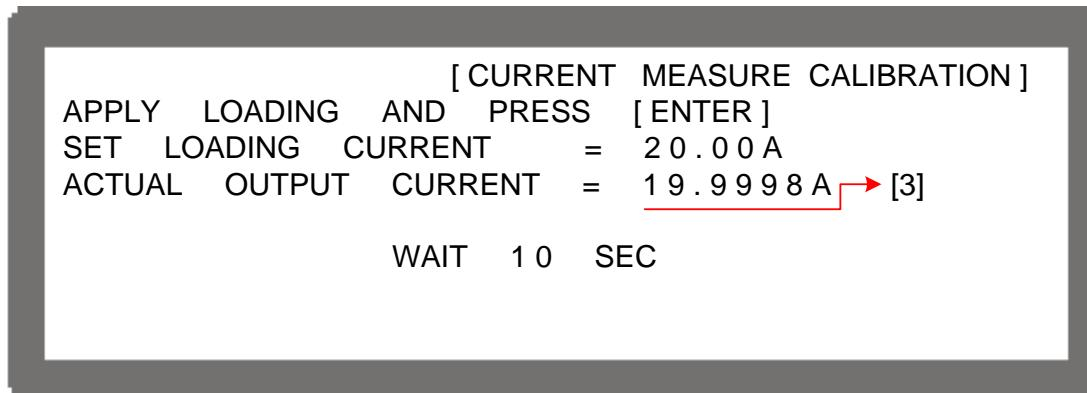

Figure 3-107
9. For high current range calibration, press “” to perform 20A calibration. The cursor will stop at position [3] as Figure 3-107 shows for setting the loading current of Electronic LOAD to 20.00A. Enter the current (4 digits after decimal point) read by Current Shunt (DVM) and press “” to confirm and wait for it to end.